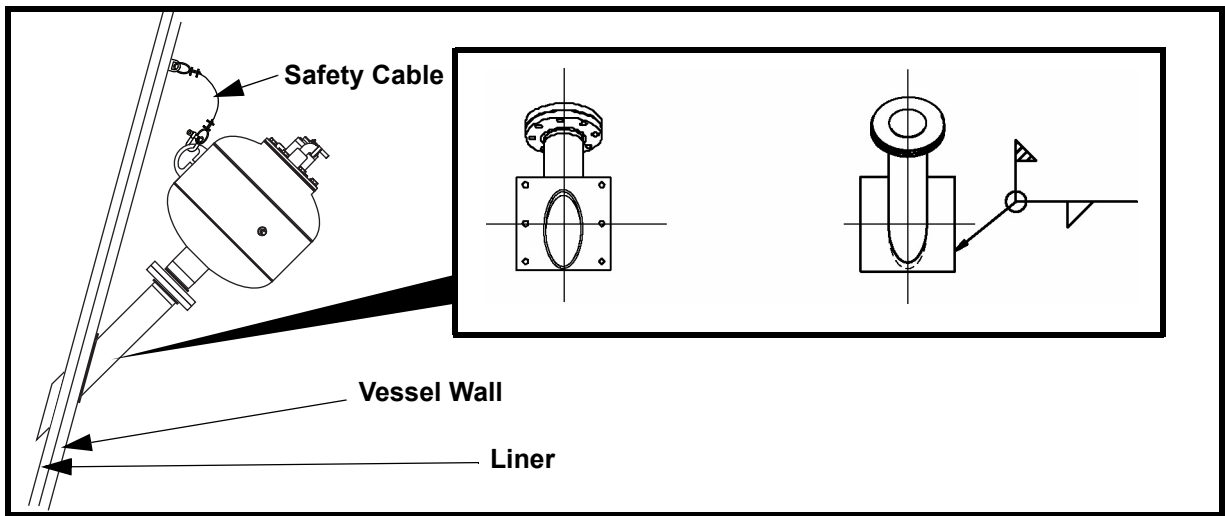

Figure 7. Installing a Drop-Through 30-Degree Mounting Plate for Vessels with Liner
- c. If vessel has a liner (Figure 7), drop-through blow-pipe must be used. The blow pipe must be extended past liner so that liner is not damaged from air cannon blast.